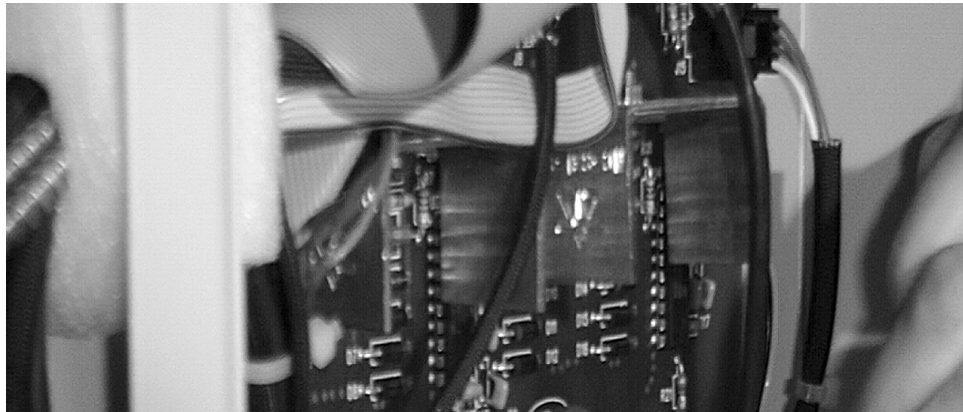

Figure 5-7. Adjusting the R1 Potentiometer
5. Turning the R1 pot clockwise decreases the value; turning it counterclockwise increases the value. Using a small flathead screwdriver or a trimmer adjuster (P/N 035617), begin adjusting the R1 pot (see Figure 5-7). When the **ACTUAL SENSOR READING** is set to 4000, press **Enter** to calibrate the **UPPER VAPOR THRESHOLD**.